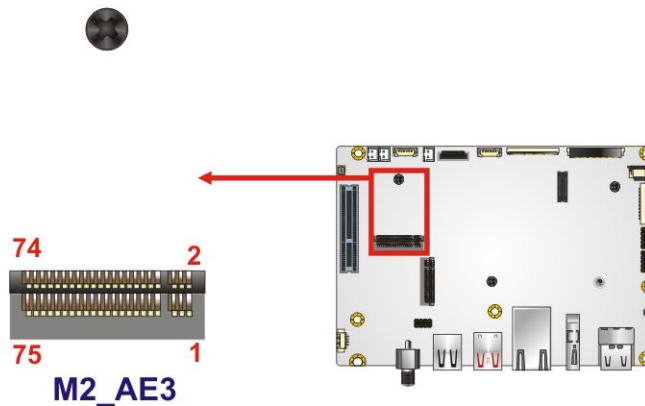

Figure 3-6: M.2 A/E Key Slot Location
- CN Type:** M.2 A key 2230 slot
- CN Location:** See **Figure 3-6**